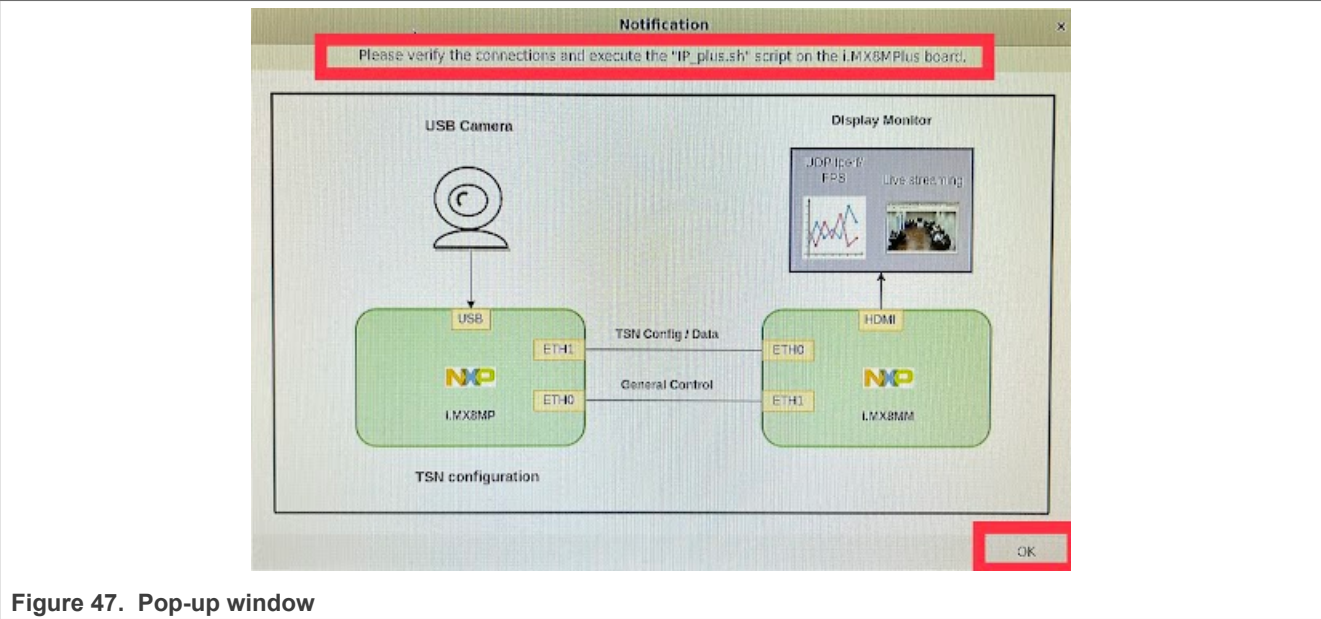

Figure 47. Pop-up window
- If the connections are not successful, a pop-up window shows up, as shown in Figure 47. After confirming the connections and system setup, click the **OK** button and relaunch the demo when a camera is connected.